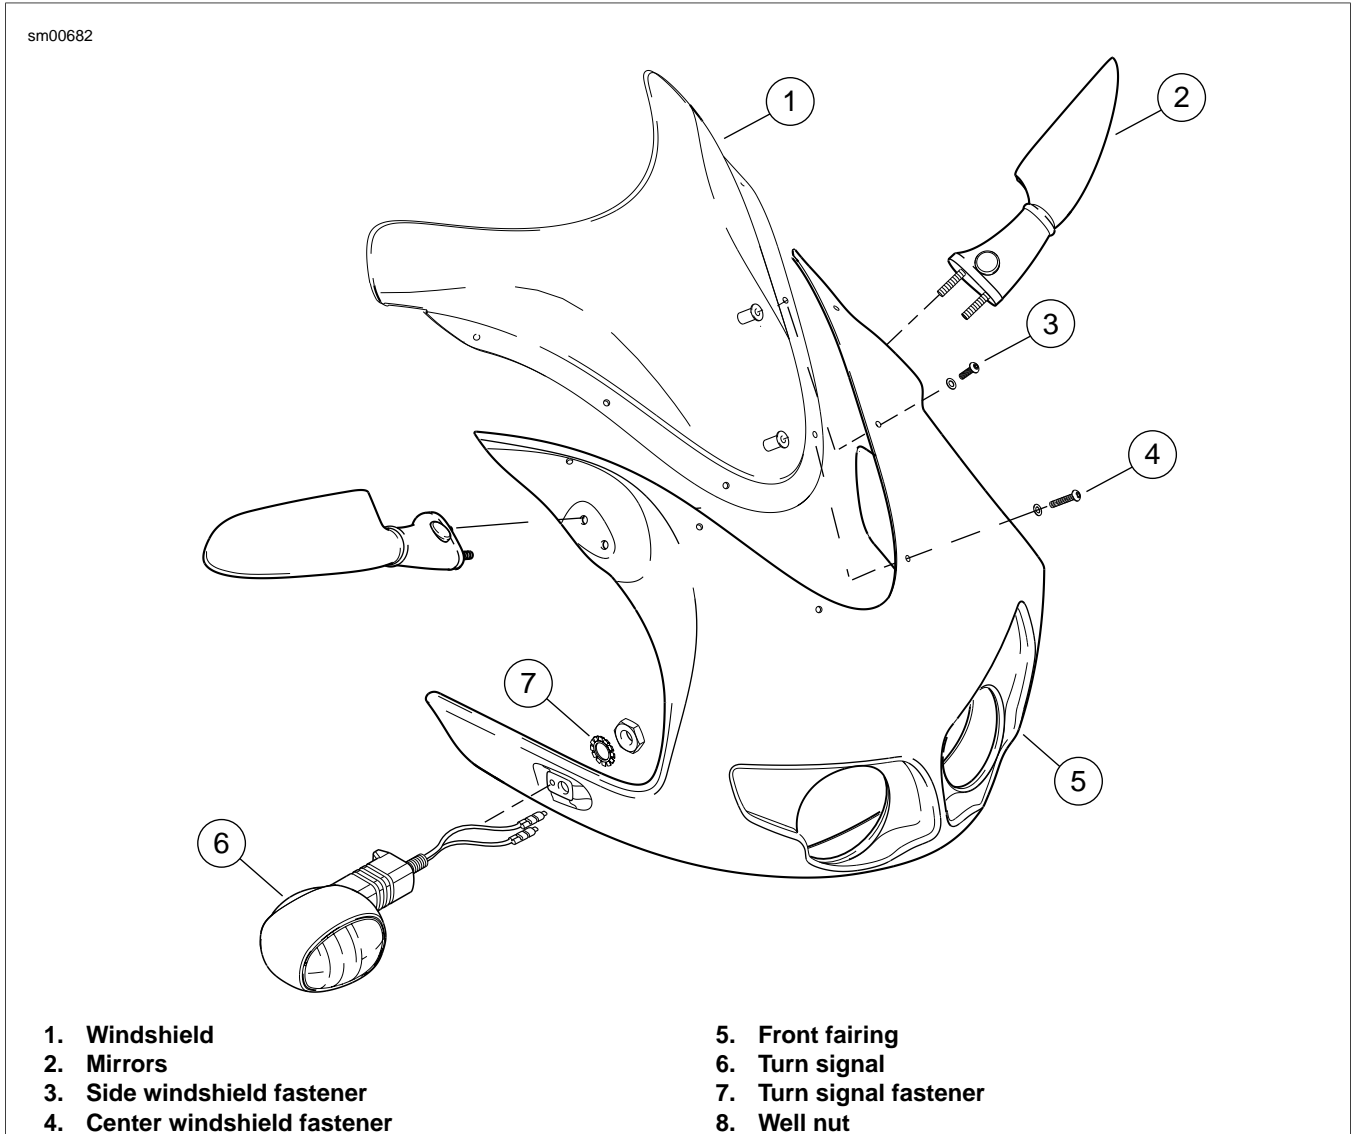

Figure 2-181. Front Fairing and Windscreen: Firebolt
1. See Figure 2-181. Remove two center (4) and four side windscreen fasteners (3) to remove windshield (1).
2. Remove mirrors (2).
3. Remove turn signals (6). See 6.15 FRONT TURN SIGNALS and remove front fairing (5).
1. See Figure 2-181. Position fairing (5) onto fairing support bracket and install turn signals (6, 7). See 6.15 FRONT TURN SIGNALS.
2. Install mirrors (2) with fasteners and tighten to 72-96 **in-lbs** (8-11 Nm).
3. Install two center (4) and four side windscreen fasteners (3) and tighten to 10-12 **in-lbs** (1-1.4 Nm).